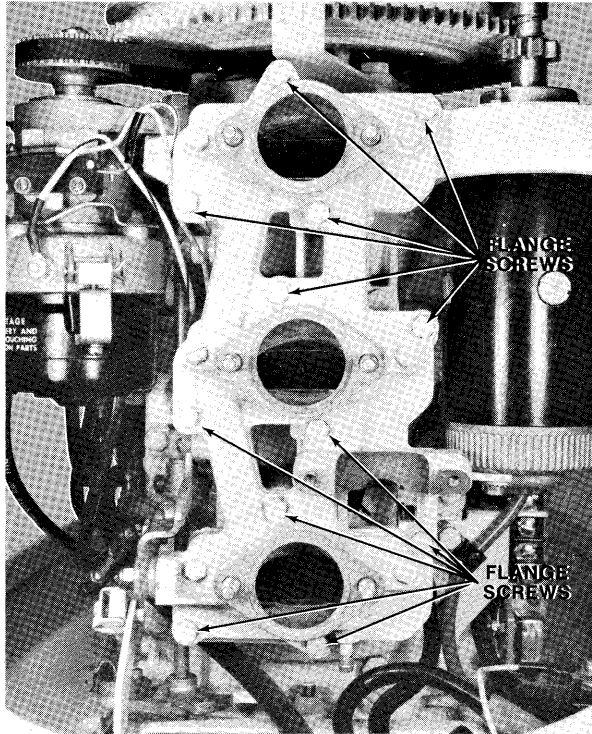

Figure 2- Carburetor Adapter Flange Screws
- C. Disconnect throttle cam link end connector from towershaft. Remove six (6) nuts (two per carburetor) securing carburetors to carburetor adapter flange.
- E. Remove choke solenoid and clamp by removing two (2) screws securing same to carburetor adapter flange.
- F. Remove twelve (12) screws securing carburetor adapter flange deflector plate and reed plate to powerhead as shown in figure 2. Remove carburetor adapter flange assembly.
- D. Secure reed plate assemblies and deflector plate to carburetor adapter flange with six (6) screws.
- F. Install carburetor adapter flange assembly on powerhead and secure with twelve (12) screws as shown in figure 2.